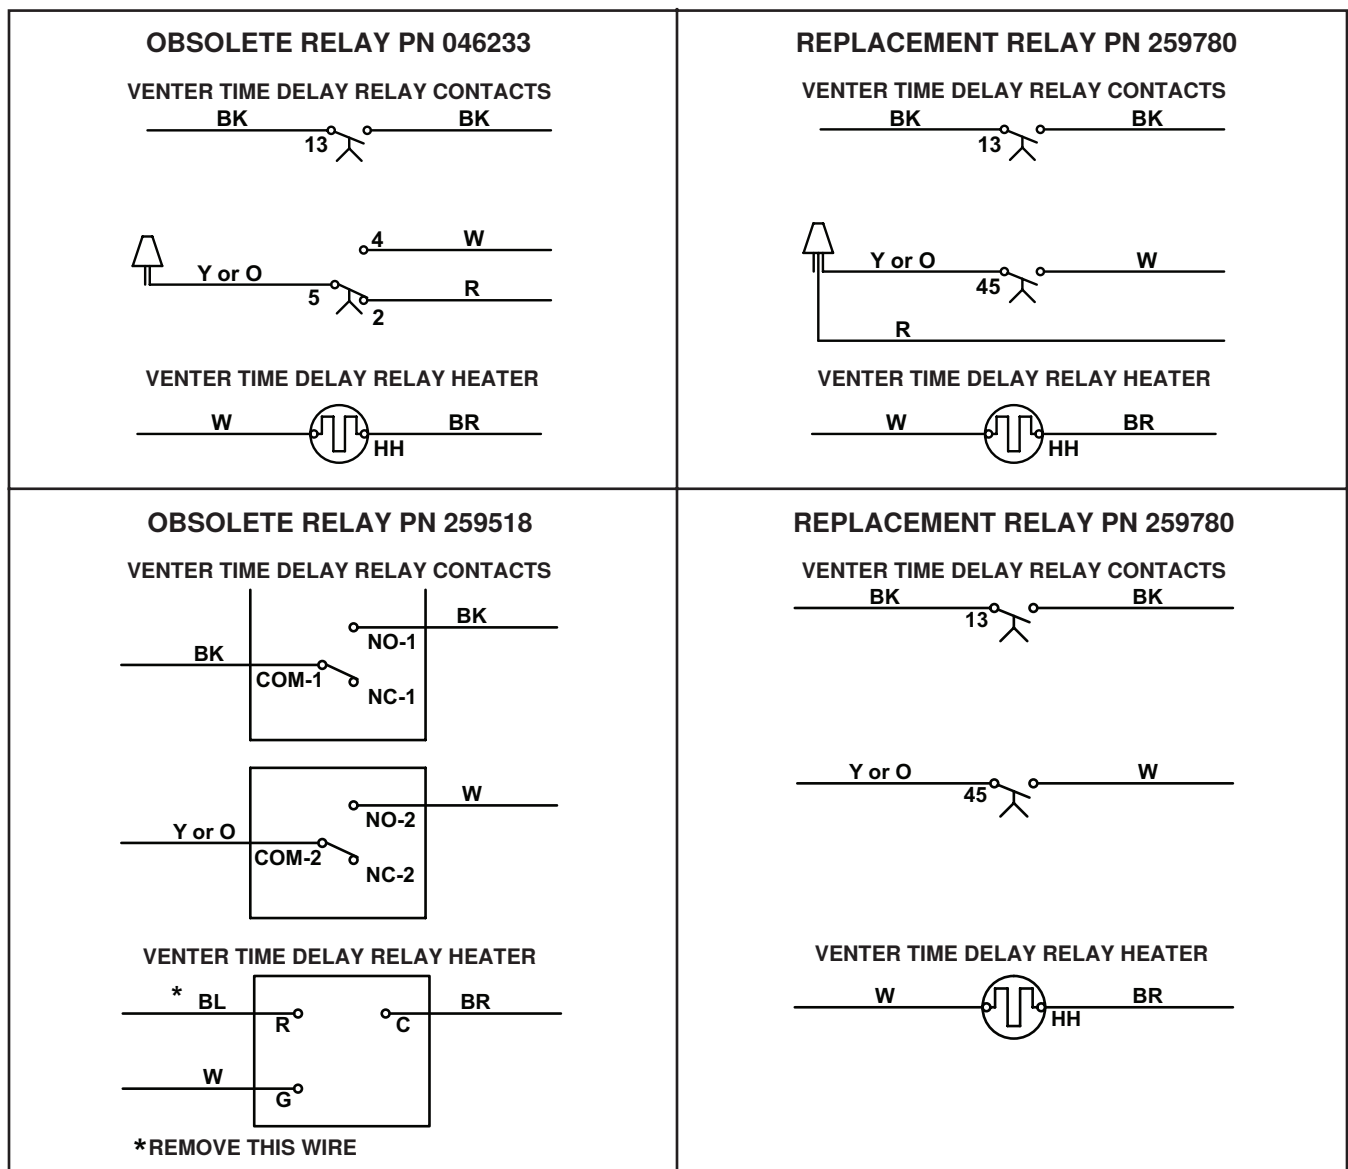

Figure 18. Wiring Connections for Model F or B Unit with Power Venter
- (1) For **all** units **except** model F and B units with optional power venter, wiring is same as for relay being replaced.
- (2) For model F and B units with optional power venter, connect wires in accordance with wiring diagram shown in Figure 18.